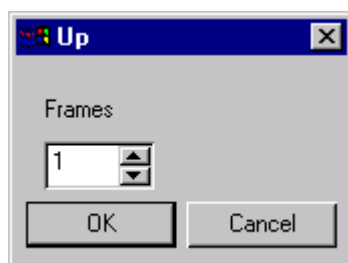

Figure 8-1. Moving Up the Call Stack
1. From the **Modify** menu choose **Up** The dialog box in Figure 8-1 appears.